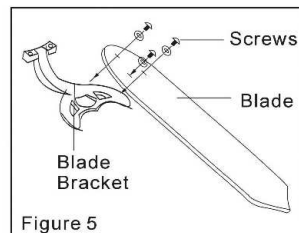

Figure 5
1. Attach blade to blade bracket using the screws supplied (Figure 5). Start a screw into the bracket. Repeat for the two remaining screws.